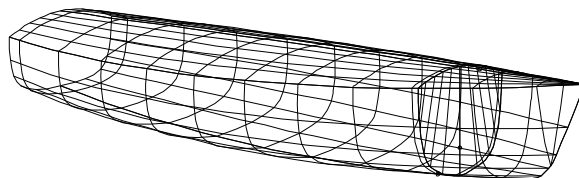

Fig. 12. BULKHD1.MS2
- 2 **<F5>** to see the other half of the boat (Fig. 12).